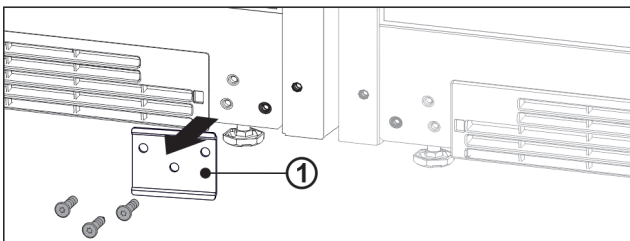

Fig. 13
- If the metal plate Fig. 13 (1) is installed, unscrew the metal plate.